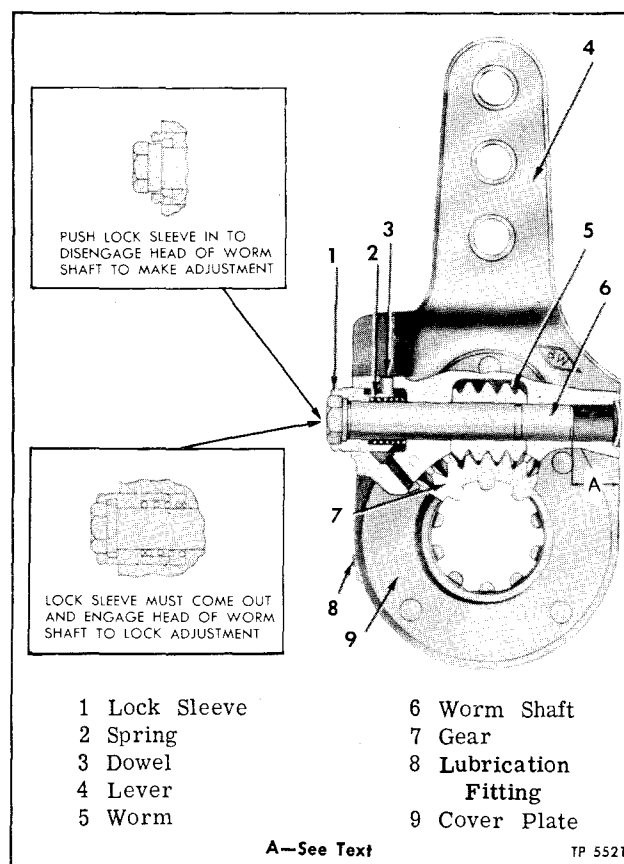

Figure 11—Slack Adjuster
Slack adjusters function as adjustable levers and provide a quick and easy method of adjusting the brakes to compensate for normal lining wear. Positive locking type slack adjusters are used at front and rear brakes. Internal construction of both front and rear slack adjusters is as shown in figure 11; however, lever arms (body) may be offset or curved.
SLACK ADJUSTER DISASSEMBLY (Fig. 11)
SLACK ADJUSTER ASSEMBLY (Fig. 11)
3. Enter small end of worm shaft through hole in body and worm. Press worm shaft into worm and body, making sure the groove in lock sleeve is aligned with pin in body. Press shaft in until distance from small end of shaft to edge of body (A, fig. 11) is as follows: Front - 5/8"; Rear - 9/16". Install welch plug in worm shaft bore.